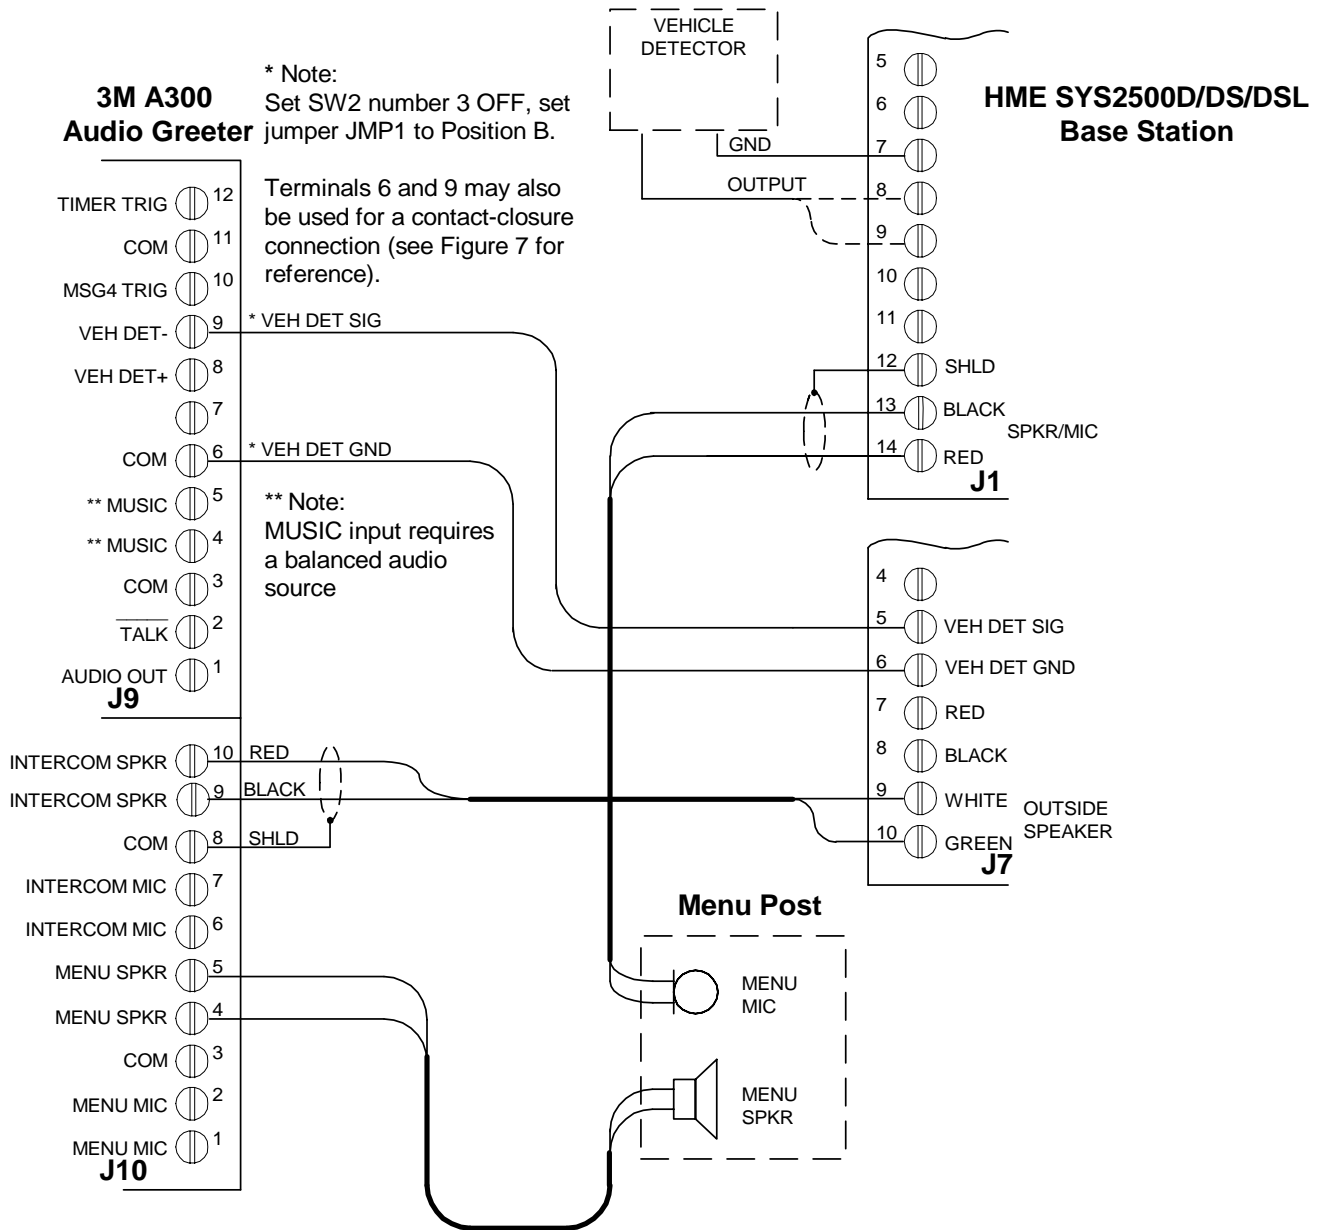

**Figure 3. Installing the A300 Audio Greeter with the 3M C762AA/BA/C921AA Base Station**
- Figure 3. "Installing the A300 Audio Greeter with the 3M C762AA/BA/C921AA Base Station"